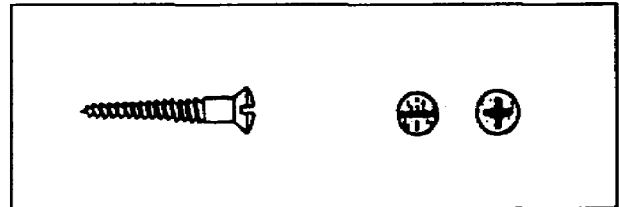

Figure 1-35. Ovalhead screw
(2) Oval-head Screws. Ovalhead screws (Figure 1-35) are used to fasten hinges or other finish hardware to wood. If slotted-head, the screw slots of these screws should be parallel to each other for better appearance.